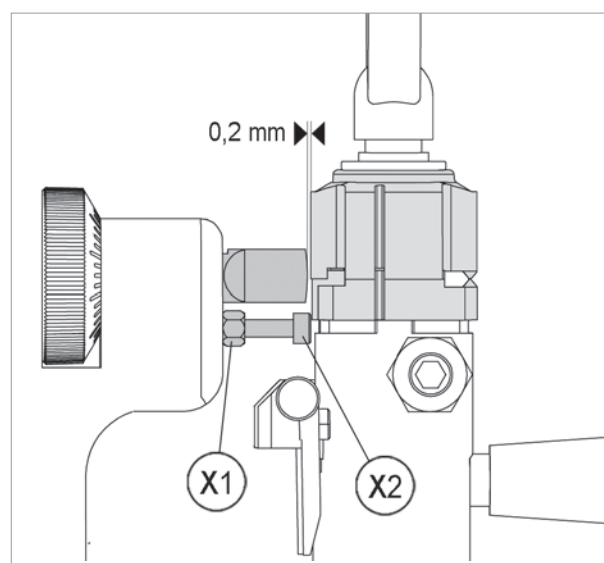

Fig. 33
- 1) Raise the carriage against the cutting tool and take to the end of its run (Fig. 33)